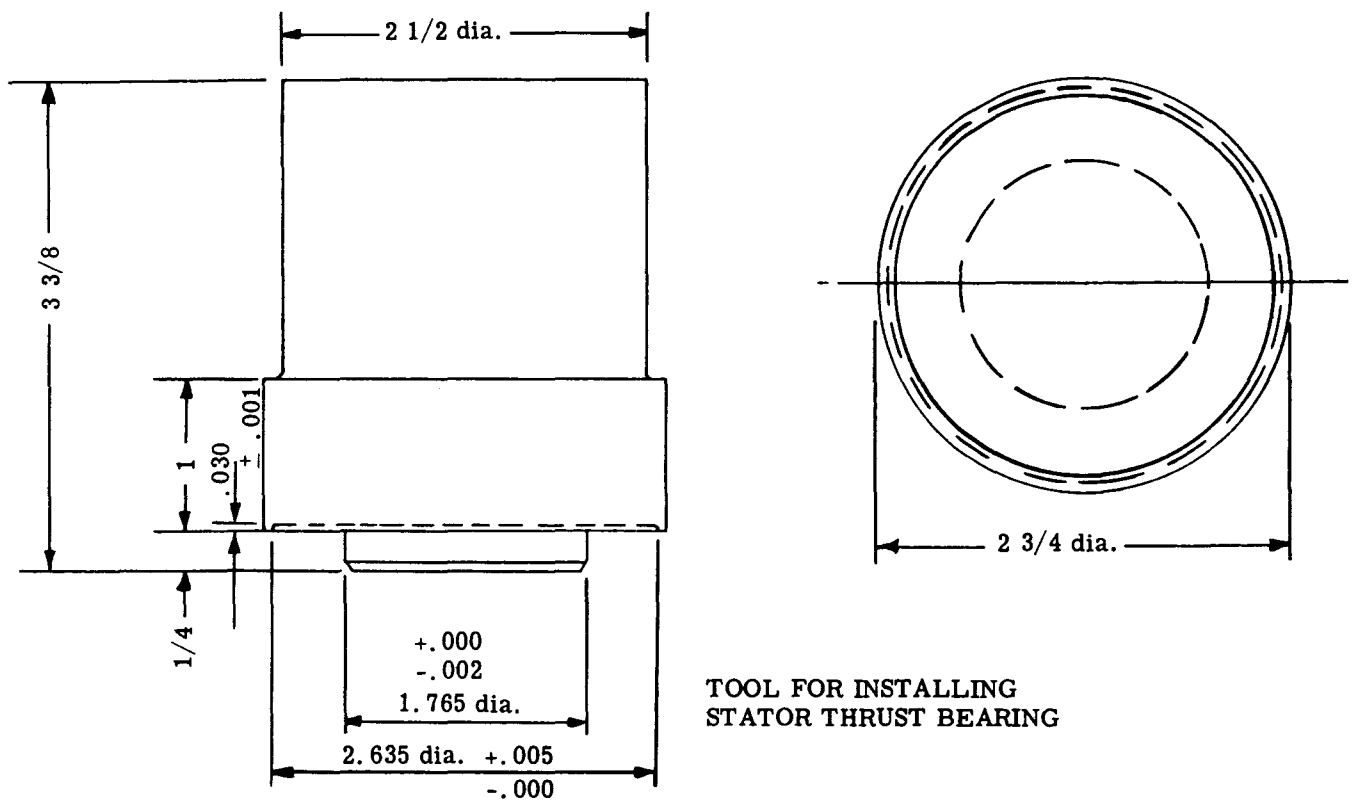

Fig. IV-4. Special tool for installing stator thrust bearing
(4) Tool for installing stator thrust bearing (fig. IV-4).